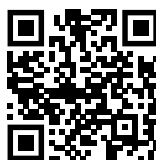

Fig. 82
- ▶ Open Liebherr SmartMonitoring Dashboard. (see Fig. 82)